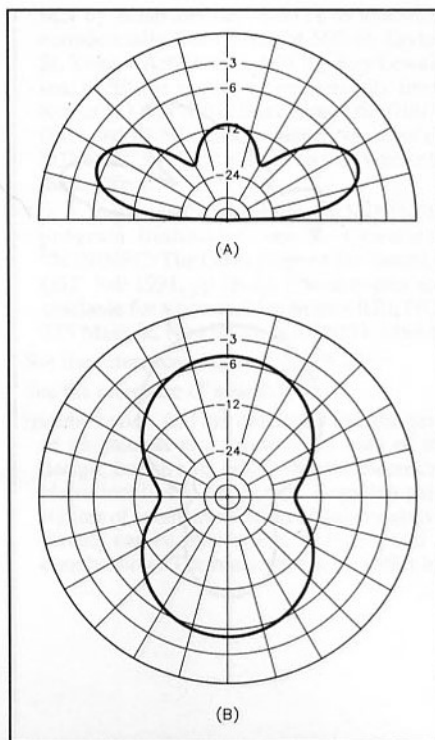
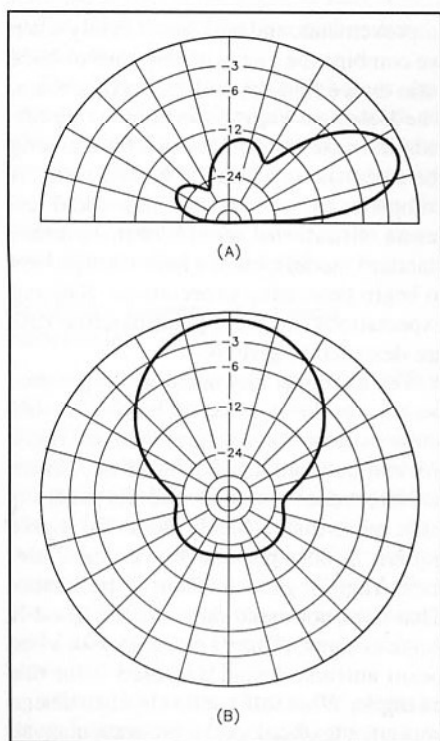

Fig 4—Patterns for a 10-meter dipole, 20 feet high. Azimuth pattern at 24° elevation; maximum gain 8.1 dBi.
Fig 8—Patterns for a 10-meter 3-element Yagi, 20 feet high. Azimuth pattern taken at 23° elevation; maximum gain 12.3 dBi.
Figs 4 and 5 illustrate the 10-meter dipole performance at 20- and 30-foot heights. The difference is revealing. The 30-foot-high dipole channels significant energy into high radiation angles, while the 20-foot high dipole appears to concentrate more energy at lower radiation angles. The patterns may come as a surprise if the only patterns you have viewed are free space types. Moreover, the patterns seem to supply an answer to my wondering about the excellent reports from Europe on my 20-foot high 10-meter dipole (without nearby trees). Figs 4B and 5B provide the azimuth patterns of the dipole. They show definite reductions off the ends of the antenna, but not the classic pinch-waisted "figure 8" of free-space patterns. Note that these patterns apply to 10 meters and not necessarily to other bands, because patterns will vary with (among other factors) the percentage of a wavelength the antenna is placed
⁵ [Editor's note: Always remember that the gain of an antenna is a function not only of its design, but also its height and the electrical characteristics of the earth. Comparing gain figures of antennas at different heights above ground can be misleading, as Figs 4 and 5 clearly show: The maximum gains differ by
1.2 dB, for the same antenna! Of course an antenna cannot have gain over itself. Similarly, front-to-back ratios may change with height at the wave angle of maximum forward response, as Figs 8 and 9 indicate. (The difference for these two heights is 2.1 dB.) As you gain experience with the modeling program, you may want to eliminate any height effects by initially modeling the antennas to be compared in free space (ground-mounted vertical systems excepted). Then model your optimized designs over ground to observe their performance in a real-life environment.]